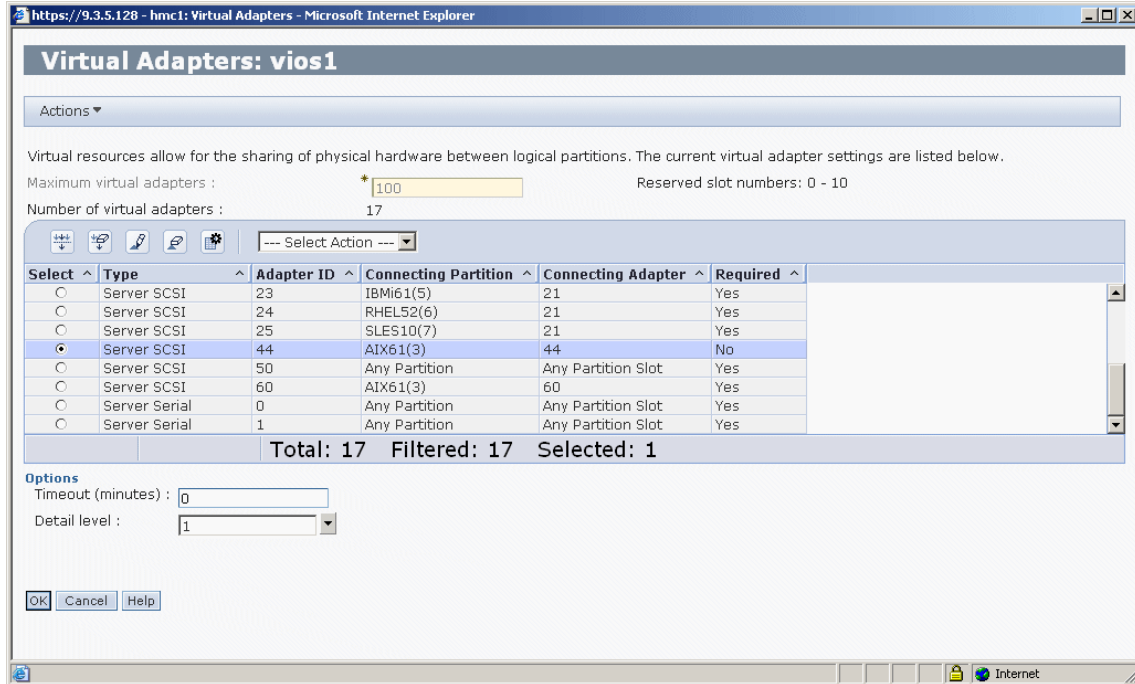

Figure 12-20 Virtual adapters for an LPAR
- The newly created adapter is displayed in the adapters list as shown in Figure 12-20.